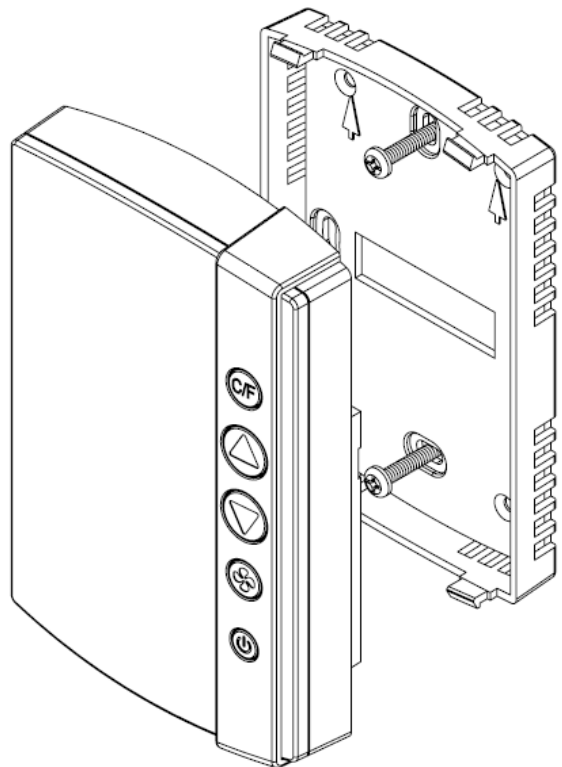

Figure 15
1. The mounting bracket is attached using two screws and the thermostat can then be snapped into place on the mounting bracket as shown in Figure 15.